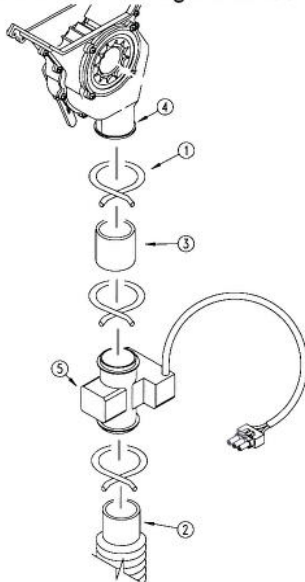

Figure 3
- To install the sensors, refer to Figure 3. Squeeze the seed-hose clamp (1) and remove the seed tube (2) from the seed cup. Clamp a drop-tube connector (3) to the seed-cup outlet (4), then clamp the sensor (5) to the drop tube. Clamp the seed tube to the sensor. Plug the sensor into the harness.